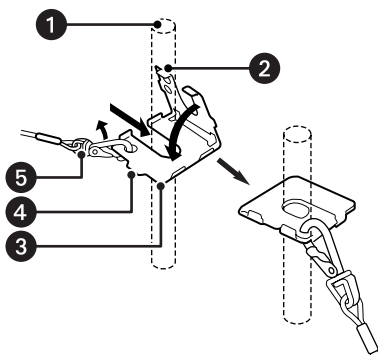

Figure 20. Mounting the Safety Wire Angle
3. Mount the safety wire angle (supplied) on the second anchor bolt and connect the safety wire (supplied) to the angle (refer to Figure 20 on page 32).